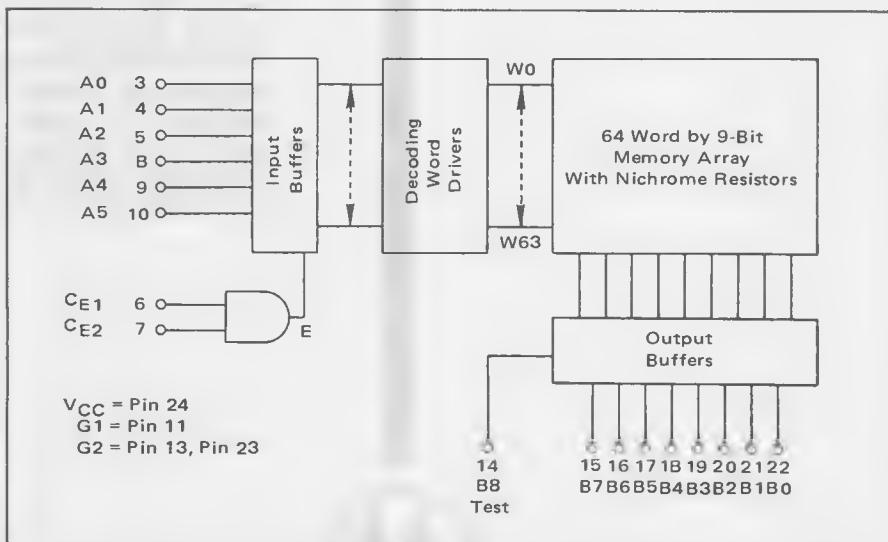

FIGURE 1 –
1. Six address lines (A_0 through A_5) are used to select 1 of 64 words. The memory consists of an array of 64 words by 9 bits, although the customer normally uses only 64 words by 8 bits. The 8 bit words appear on outputs B_0 through B_7 . The ninth bit in the array (B_8) is used during manufacturing final test to determine if the address decoding logic is operating properly. Also, this ninth bit is used to assure that the links have fusing characteristics required by the normal 64x8 bit array. Since the ninth bit is physically farthest from the word line drivers, it is also used for worst case ac testing. The test output-pin (14) in Figure 1 provides this ninth bit.
The MCM5003/5004 is unique in that it provides additional program circuitry to supply the current gain necessary to insure high reliability when fusing the memory link. To program a logic "1" into a particular memory bit, the proper bit-output line is connected to -6.0 volts (refer to Figure 1). This causes the transistor in the program circuitry (refer to Figure 2) to turn on allowing the fuse current to flow through the appropriate nichrome resistor, R₁. The sense amplifier Schottky transistor turns off when programming, although about three millamps will flow through R₃ and the base-collector junction of the Schottky transistor to the bit output.